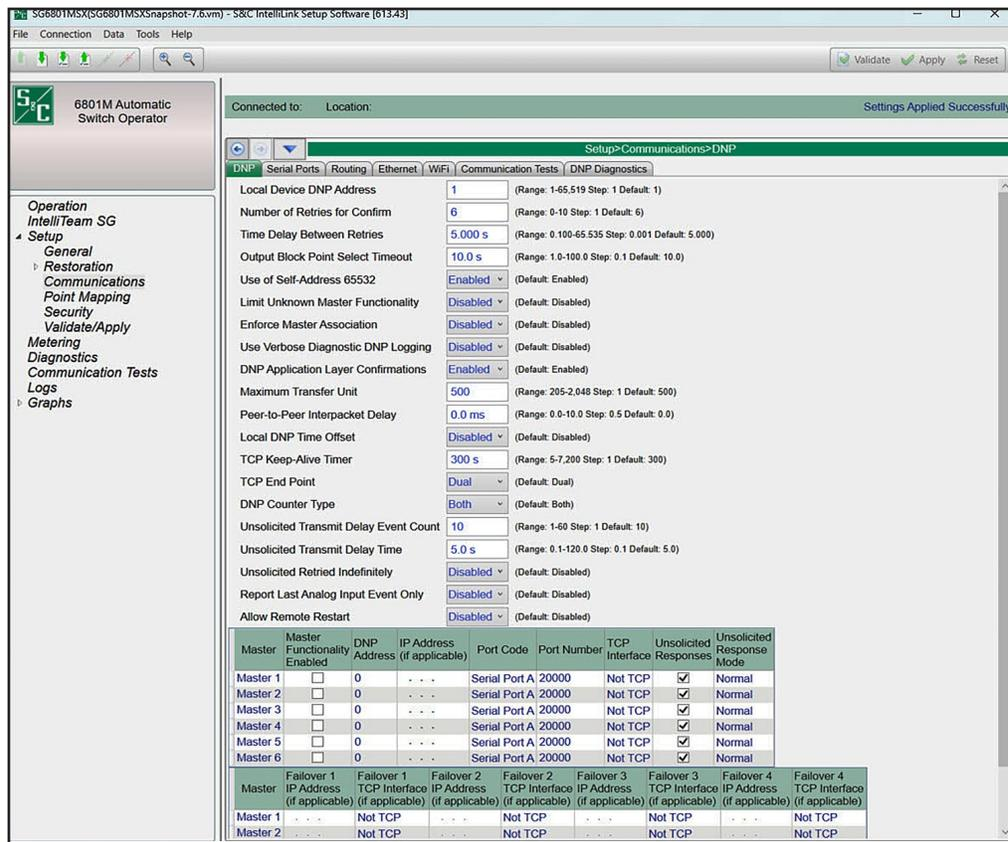

Figure 32. The Setup > Communications > DNP screen.
Transfer Trip commands are sent from the device to distributed generation (DG) resources within the distribution system immediately upon detection of a circuit anomaly so the DG does not interfere with IntelliTeam system restoration activities. This action is both for safety reasons and for the protection of load. See Figure 32 on page 78.
DNP communication settings for the IntelliTeam SG Automatic Restoration System, SCADA, and IntelliLink Setup Software are configured on the screen shown in Figure 32.